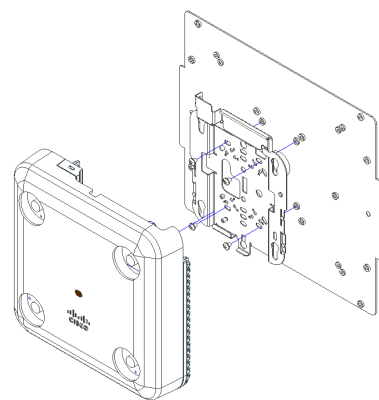
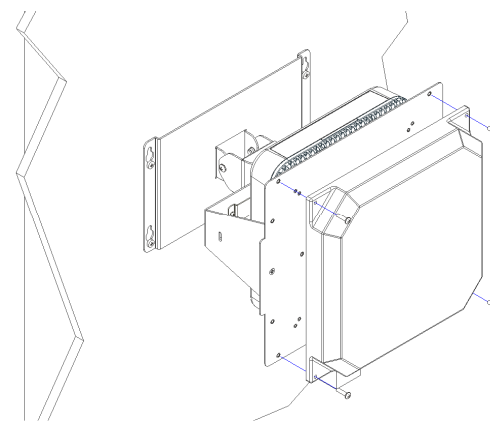
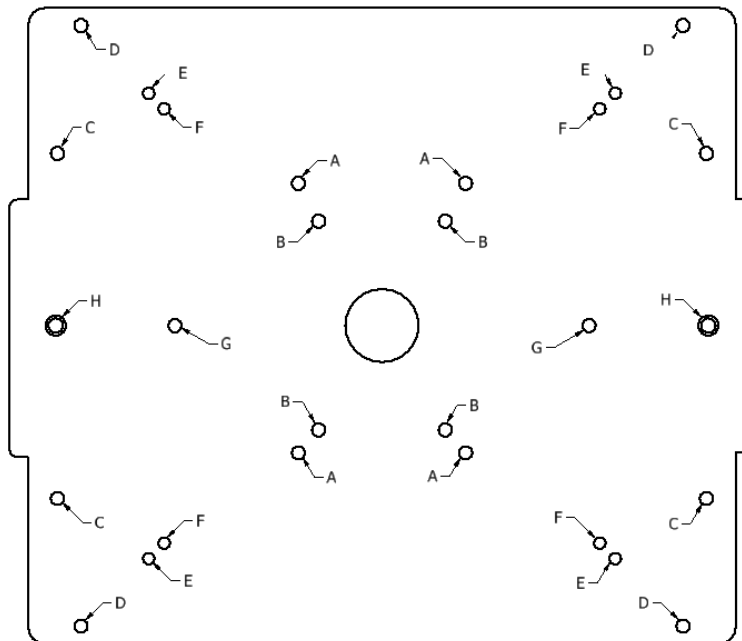

Figure 2
Figure 4
Figure 6
Step 2a (Cisco Access Points Only) – Use the legend on the back page to determine which hole pattern to use (Figure 6). Securely fasten the *access point's mounting bracket* to the back side of the Antenna Mounting Plate, side with press nuts, using the included (4) # 8-32 x 3/16" screws (Figure 2).
Step 4 – Use the legend on the back page to determine which hole pattern to use (Figure 6) for antenna attachment. Use #8-32 x 5/8" screws to attach Cisco antennas and #6-32 x 1/2" screws for Aruba Antennas (Figure 4). If no hole pattern is available, use the provided Dual-Lock Tabs to adhere the antenna to the Antenna Mounting Plate. Peel one side of both pairs and apply to the clean backside surface of the antenna. Peel the other side of the Dual-Lock Tabs and adhere to the Antenna Mounting Plate.